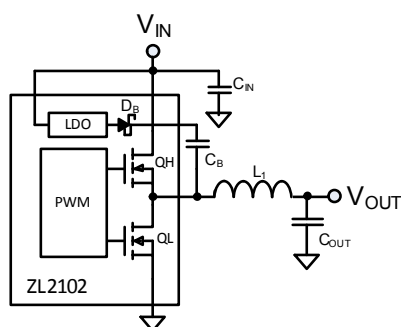

FIGURE 8. STEP DOWN CONVERTER
9. Refer to Safe Operating Area in Figure 8 and thermal design guidelines in AN2010.
The ZL2102 operates as a voltage-mode, synchronous buck converter with a selectable constant frequency pulse width modulator (PWM) control scheme. The ZL2102 integrates dual low $r_{DS(ON)}$ synchronous MOSFETs and a high-side driver to minimize the circuit footprint. Figure 8 illustrates the basic synchronous buck converter topology showing the primary power train components. This converter is also called a step-down converter, as the output voltage must always be lower than the input voltage.